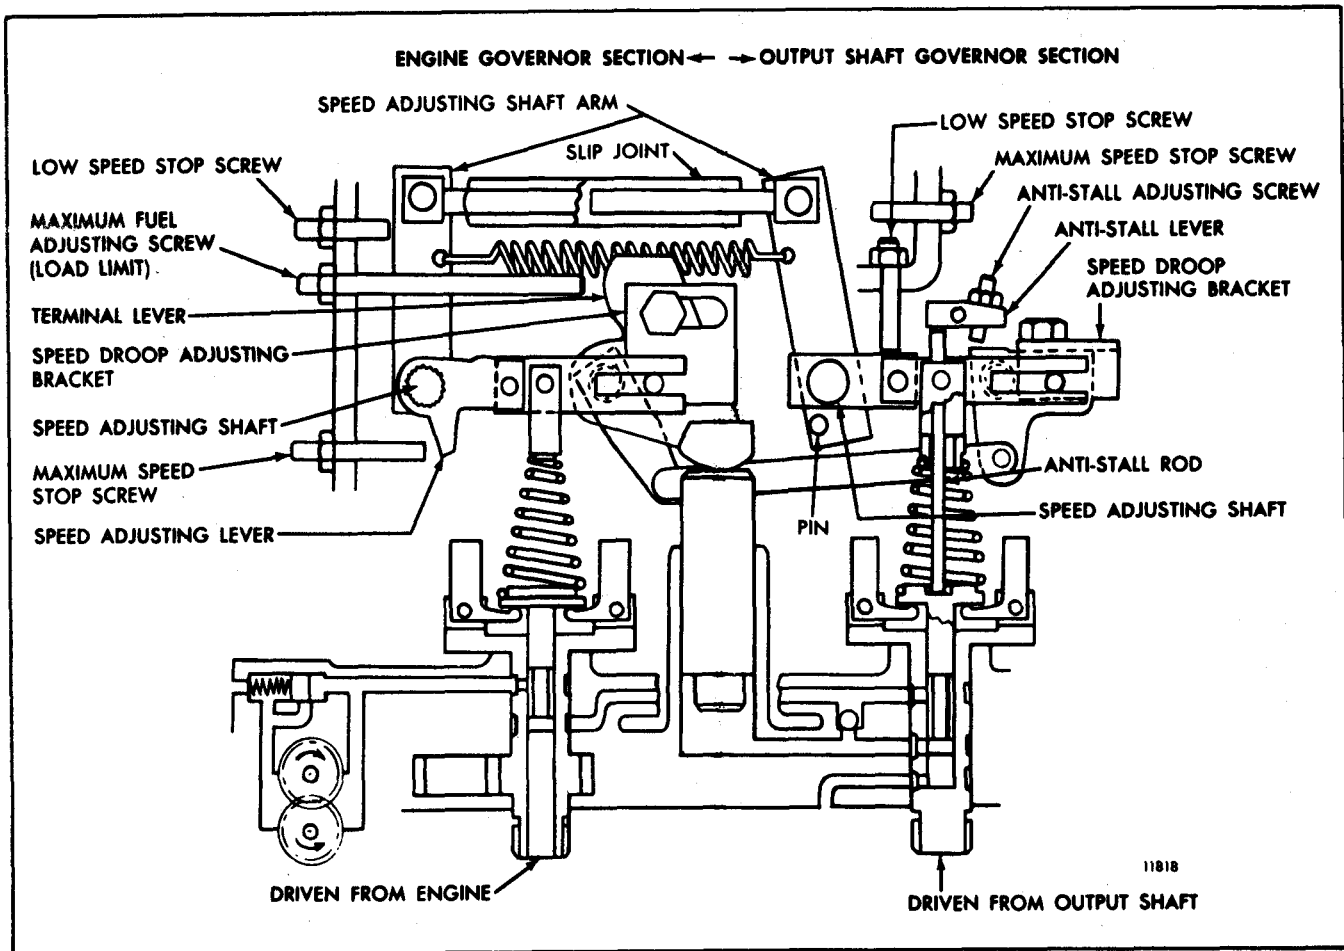

Fig. 2 - Schematic Diagram of Single Lever Dual Governor
1. Loosen the locknut and back out the output shaft governor maximum speed stop screw until it extends approximately 1" from the face of the locknut when the nut is tight against the housing (Fig. 2).